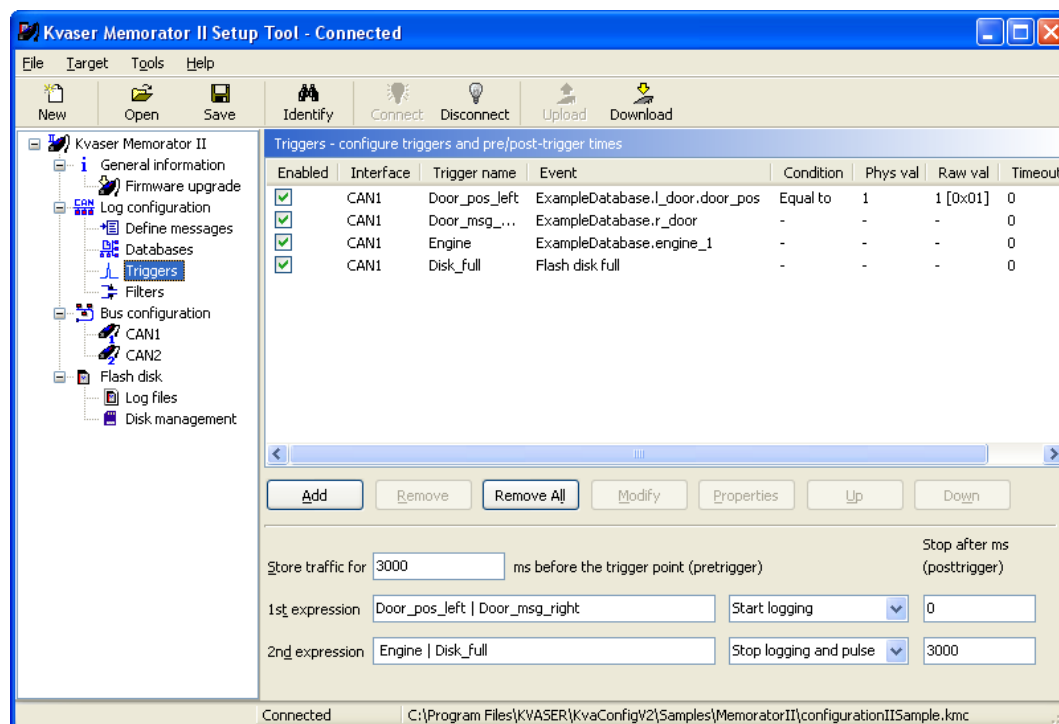

Figure 12. Trigger settings.
- Write 3000 in *Store traffic for* below the trigger list, which means that all CAN messages that we don't filter out will be logged in 3 seconds before our trigger becomes true. See Figure 12.
- At the *1:st expression* you should write: **Door_pos_left | Door_msg_right** as you can see in Figure 12. This means that Kvaser Memorator Professional will start its logging if the condition for either *Door_pos_left* or *Door_msg_right* becomes true.
- Write 3000 at *posttrigger* beside the expression. See Figure 12. We want the logging to go on until 3000 milliseconds after we have sent the stop trigger message. This will not be done if the logging stopped because the flash disk was full.